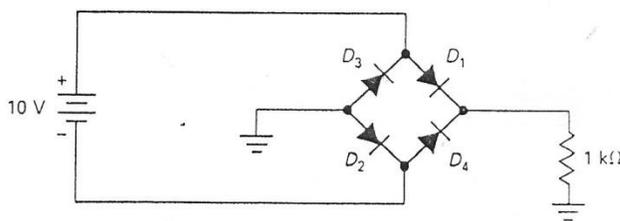

Figure 4-3
- In Fig. 4-3, determine whether each diode is on or off. Record your answers in Table 4-6.
- Assume that the polarity of the battery is reversed in Fig. 4-3. Record the on-off condition of each diode in Table 4-6.
- Calculate the voltage across each diode in Fig. 4-3. Also calculate the load voltage. Record all values in Table 4-7.
- Build the circuit of Fig. 4-3. Measure and record all voltages listed in Table 4-7.
- In Fig. 4-3, diode D_2 is:
- If a diode in Fig. 4-3 has a voltage of 0.7 V across it when conducting, the load voltage will be:
- If a diode D_1 opens in Fig. 4-3, the load voltage will be:
- If a diode in Fig. 4-3 has a voltage of 0.7 V across it when conducting, the voltage across D_4 will be: